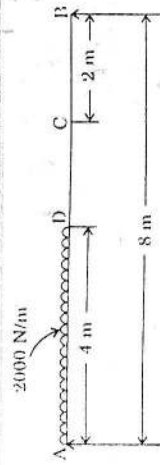

Fig. 1
7. (a) Draw S.F. and B.M. diagrams for the beam shown in Fig. 1